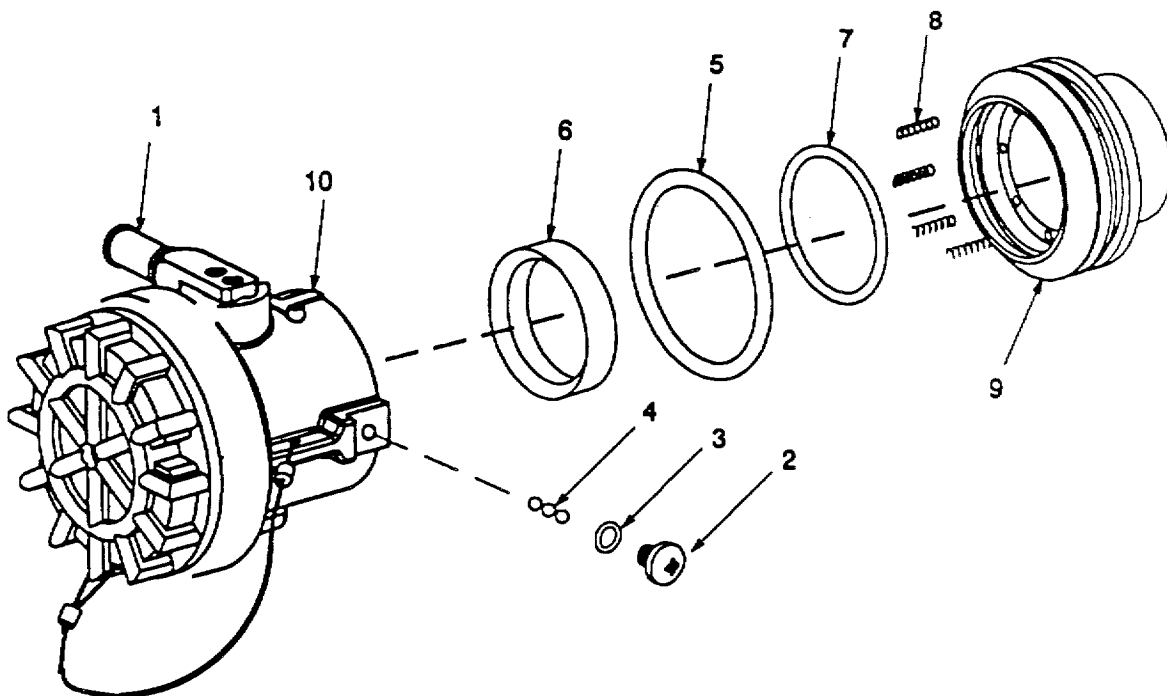
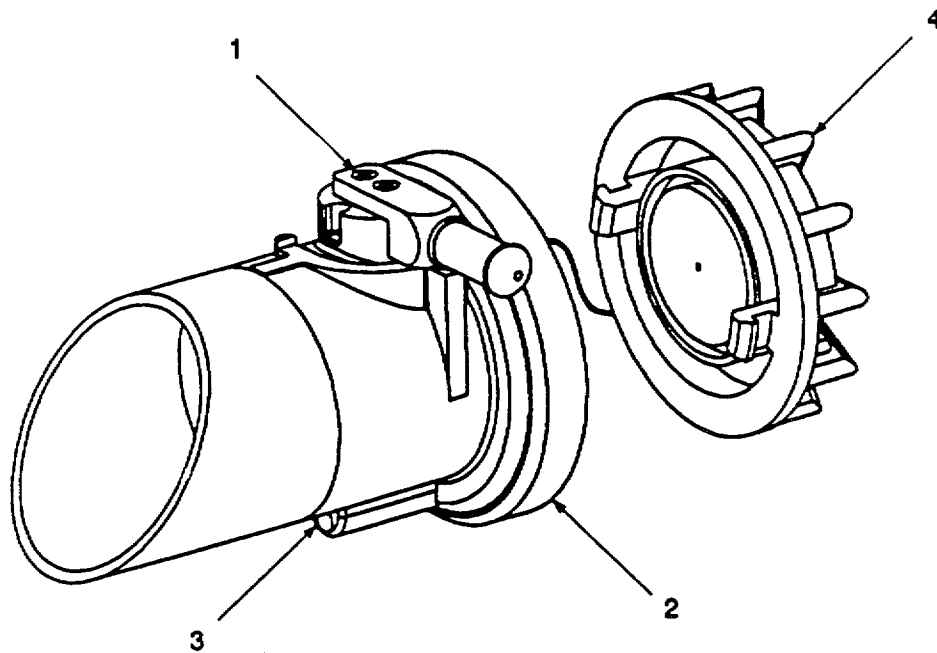

Figure 4-12. Valved Dry Break Coupling Installation.
Figure 4-13. Valved Dry Break Coupling Adjustment,
g. Installation. Refer to figure 4-12.
- (1) Lightly coat preformed packings (3, 5 and 7) with silicone compound.
- (2) Install eight springs (8), preformed packing (7) and ball seal (6) in fitting (9).
- (3) Install preformed packing (5) on fitting (9).
- (4) Push coupling (10) onto fitting (9).
- (5) Position coupling (10) so that opening for balls (4) is pointing up.
- (6) While pressing coupling (10) onto fitting (9), install 41 balls (4). Rotate coupling back and forth on fitting to aid installation.
- (7) Install preformed packing (3) on screw (2).
- (8) Install screw on coupling (10).
h. Adjustment. Refer to figure 4-13.